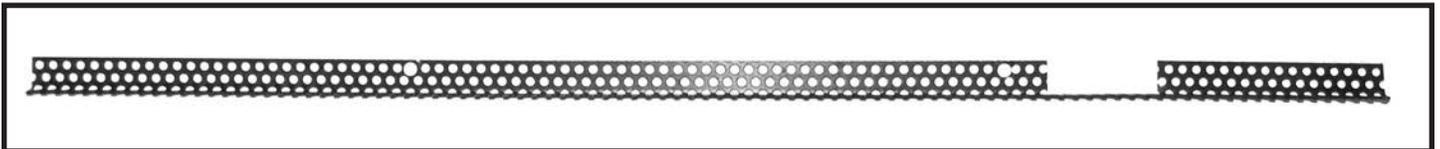

Figure 69: Front mesh guard.
3. Place the front mesh guard (Figure 69) along the front edge of the front burner. Secure with supplied screws. Fit the guards gap around the pilot assembly (Figure 70).